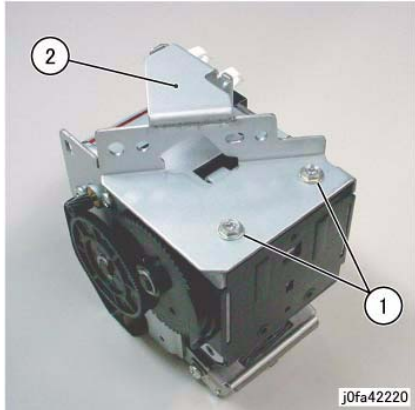

Figure 2 Removing the Bracket
5. Remove the Bracket from the Staple Assembly (Figure 2):